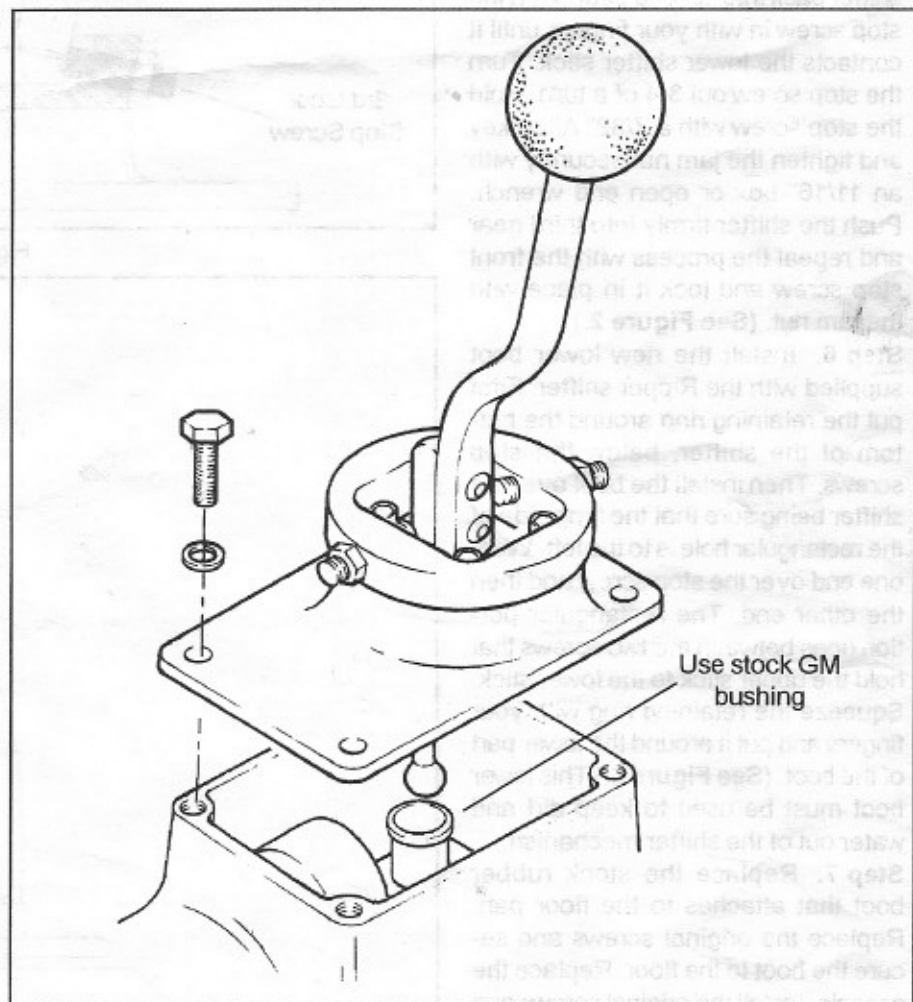

Figure 1
**Step 4.** Before you put the shifter into the car turn the stop screw lock nuts almost all of the way out and turn the stop screws out until there is about 1/8" showing inside of the black ring. Remove all traces of the original sealer from the shifter mounting surface. Put new RTV sealer on the top surface of the transmission and install the Ripper shifter. Use four supplied M8-1.25 x 25 mm hex head screws and flat washers to secure the shifter to the transmission. (Do not use the stock screws.) Tighten the screws to 12-15 lb-ft. (See **Figure 1.**)